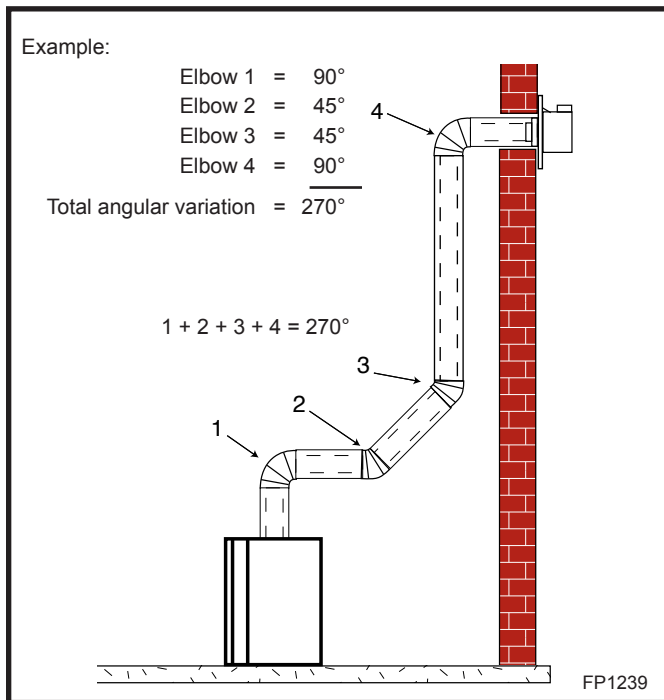

Fig. 48 Maximum number of elbow degrees.
- The maximum number of 45° elbows permitted per side wall installation is two (2). These elbows can be installed in either the vertical or horizontal run.
- The maximum number of elbow degrees in a system is 270°. (Fig. 48)
Use appropriate length of pipe sections - telescopic or fixed - and install the horizontal vent sections. The sections which go through the wall are packaged with the starter kit, and can be cut to suit if necessary. (Fig. 48)